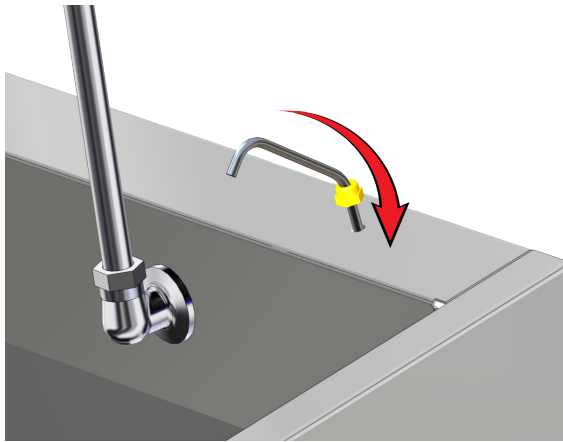

Fig. 4: Install Soap Spout
2. Feed the spout (item 1) through the small hole at the top of the sink (Fig. 4). The nut (item 2) should rest on top of the sink.